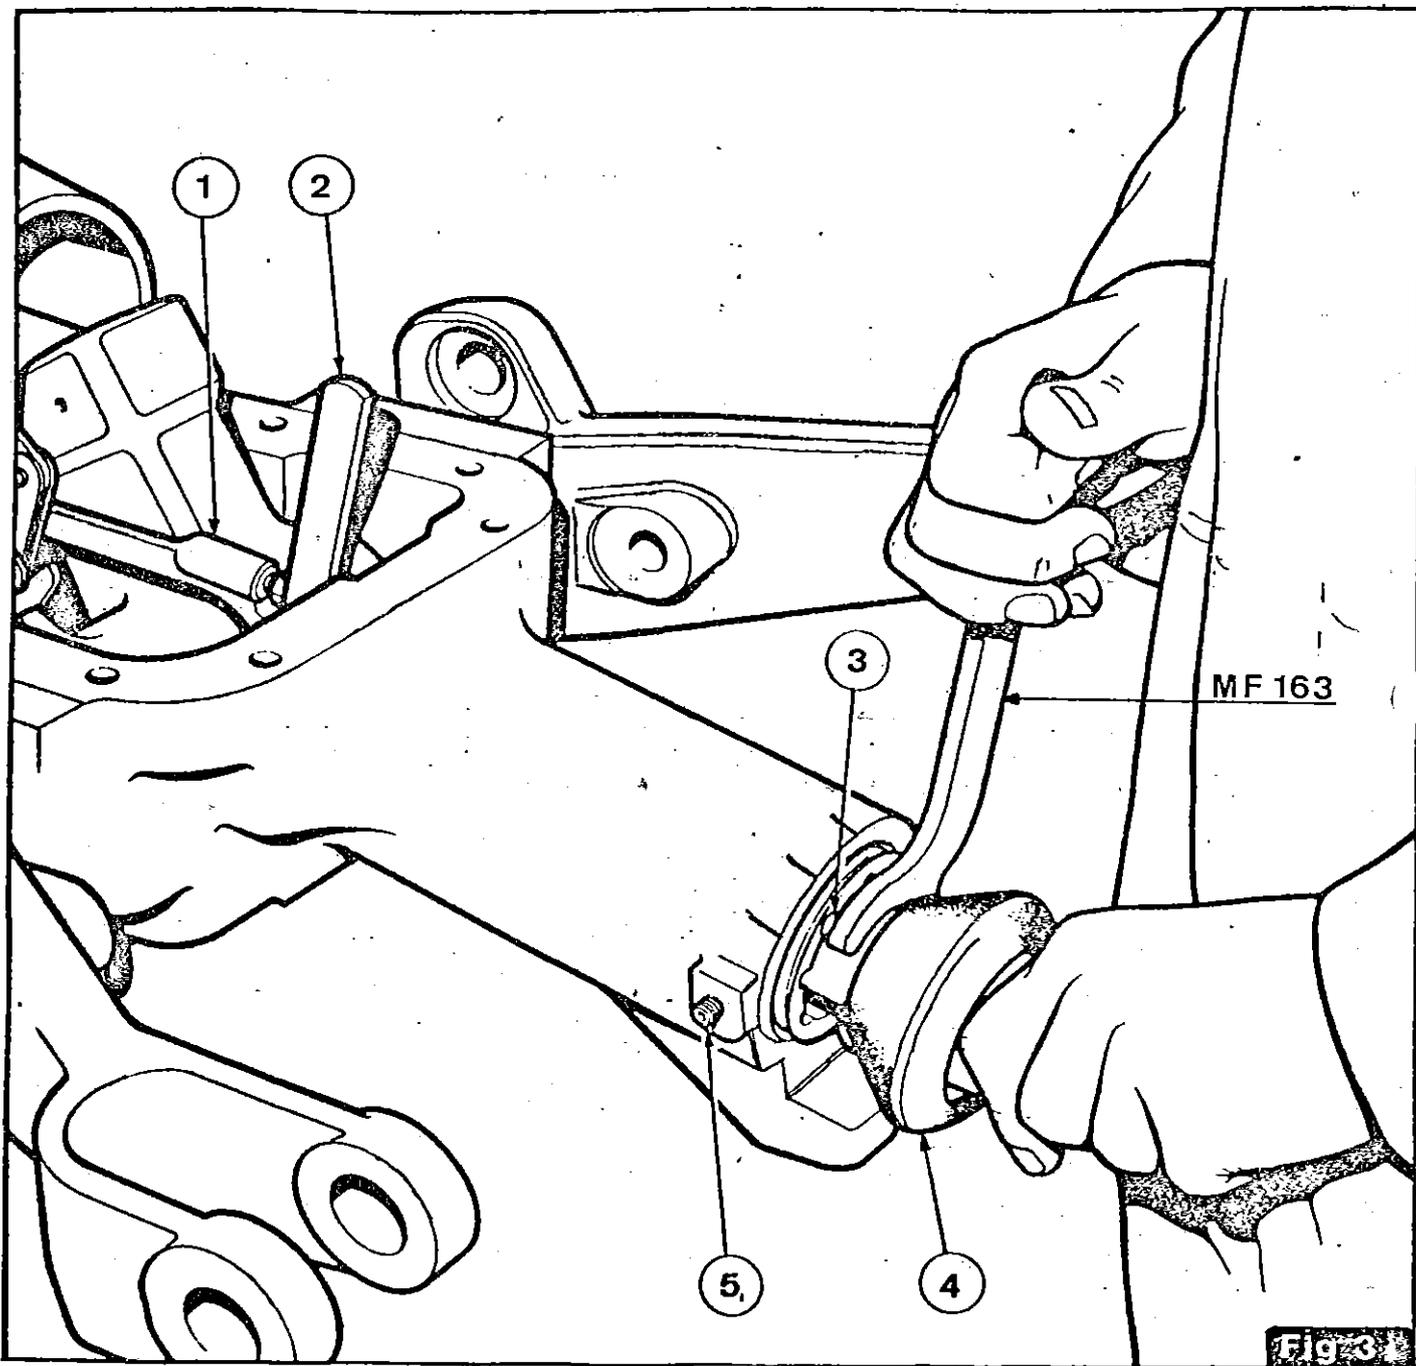

Fig 3
3.- MONTAGE DU RESSORT DE CONTROLE D'EFFORT DANS LE LOGEMENT DU COUVERCLE DE RELEVAGE - Fig.3